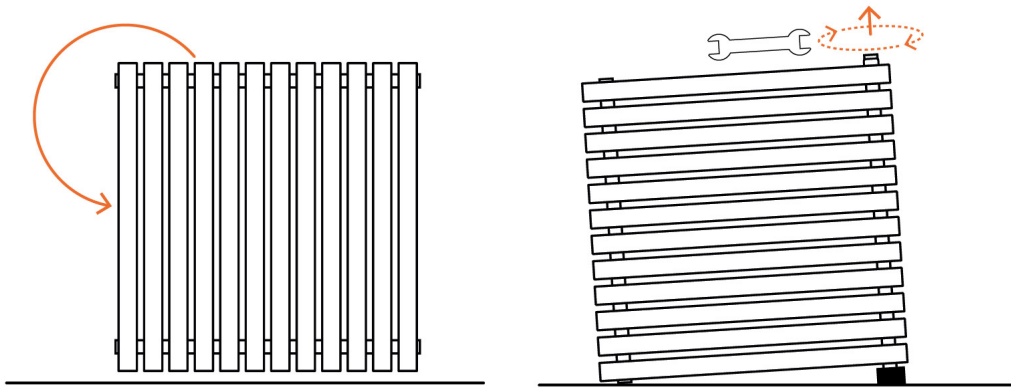

Figure 3 | Inlet tilted to its highest point before filling.
- Tilt the radiator until the fitting location is at the highest point, as shown in **Figure 3**. This prevents any fluid escaping if your radiator is pre-filled.